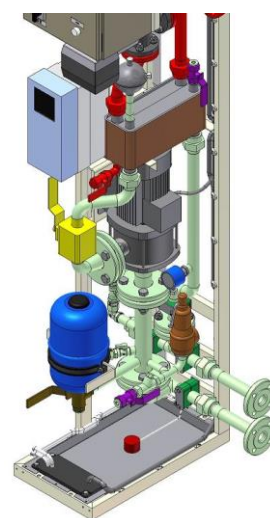

Figure 5.1-10
- Valves V161...V162 open (violet colour in Figure 5.1-10)
- Valve V160 lever towards you (brown colour in Figure 5.1-10)
- Valve V140 closed (yellow colour in Figure 5.1-10)